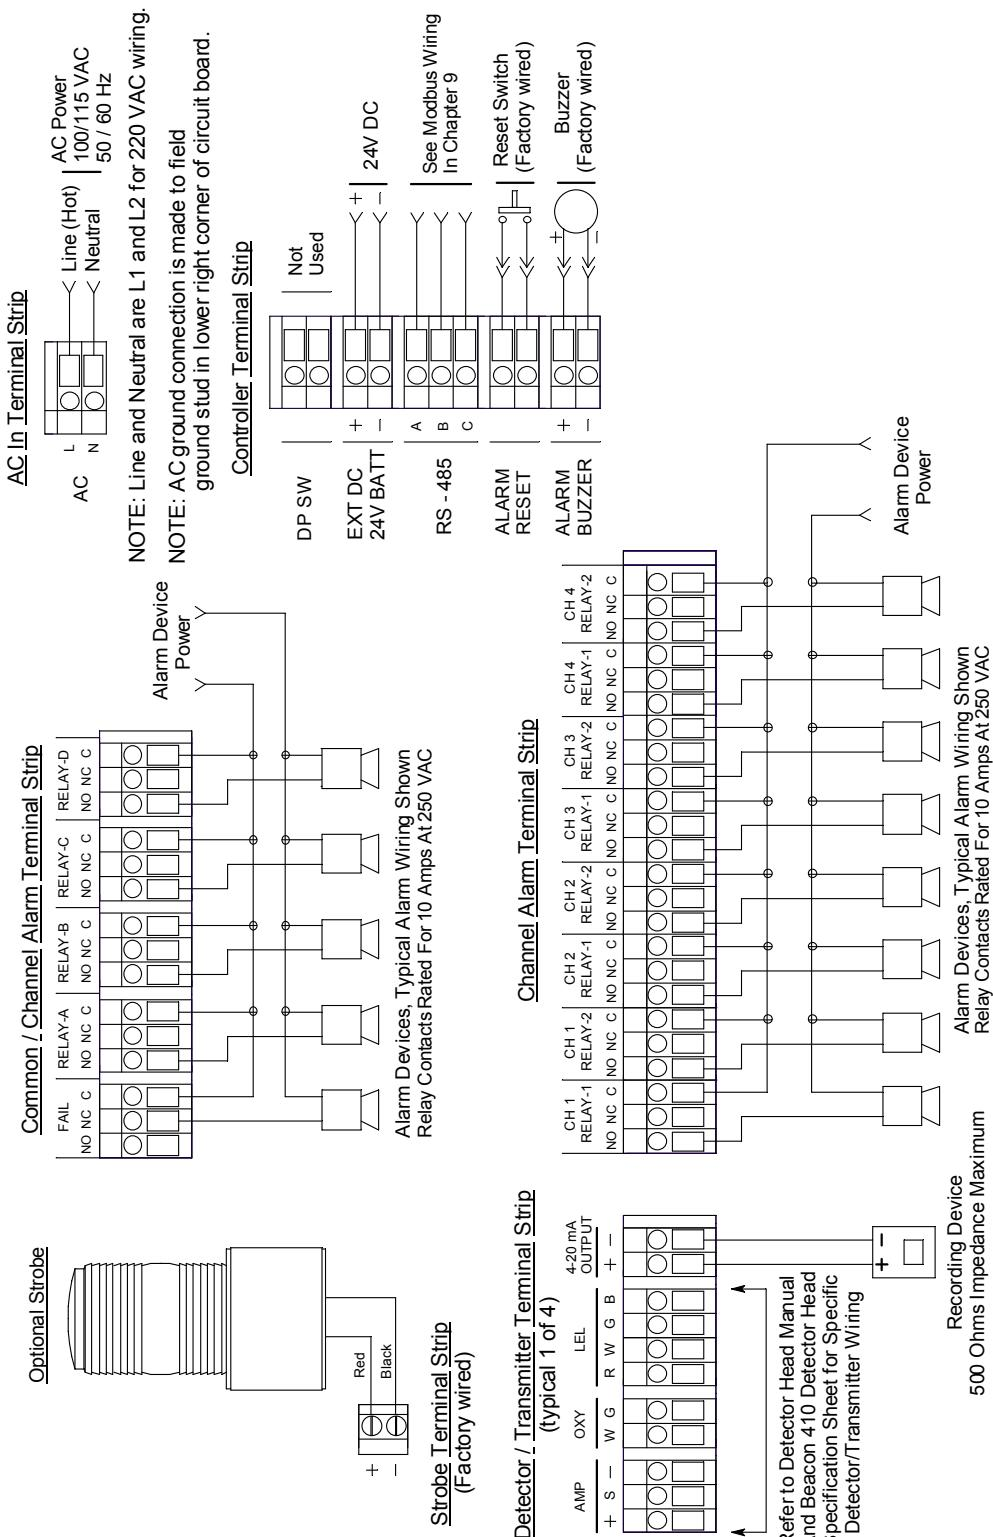

Figure 8: Beacon 410 Gas Monitor External Wiring Diagram
This section describes procedures to connect the AC power source, DC power source, Modbus wiring (refer to “Wiring the Beacon 410 in a Modbus System” on page 57), external alarms, recording devices, and detector heads. See Figure 8 on page 18 for a general diagram of all external wiring to the Beacon 410.
6. Connect the leads from the external alarm device and an external power source to the selected channel alarm or common/channel alarm relay contact terminals as shown in Figure 8.